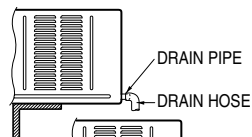

Fig. 1
2. Connect a drain hose of  $\frac{9}{16}$ " inside diameter to the drain pipe as shown in Fig. 1.